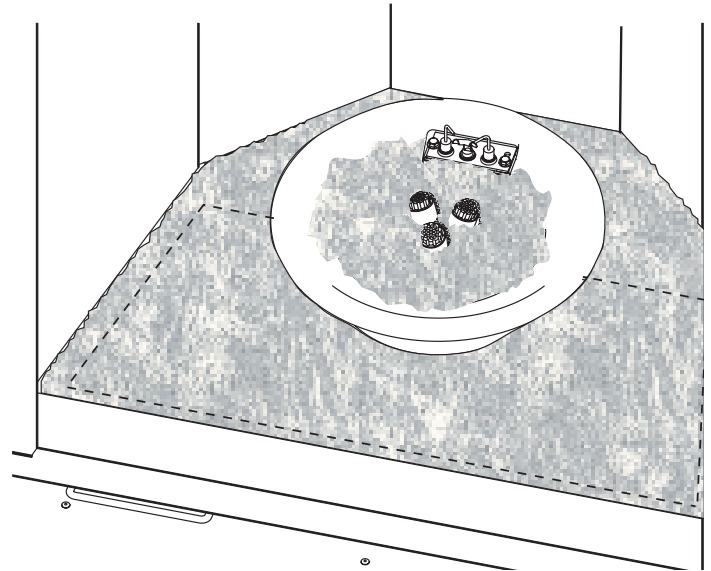

Figure 55
9. Using DG1BKP, DG1BUC, or DG1CLF decorative media only, cover the firebox floor surface with a thin, uniform layer. Fill Media Vessel with a thin layer of media. Keep pieces away from the pilot orifice and allow the center burner ports to protrude through. Flame appearance will be affected by the distribution of decorative media. **See Figure 55.**